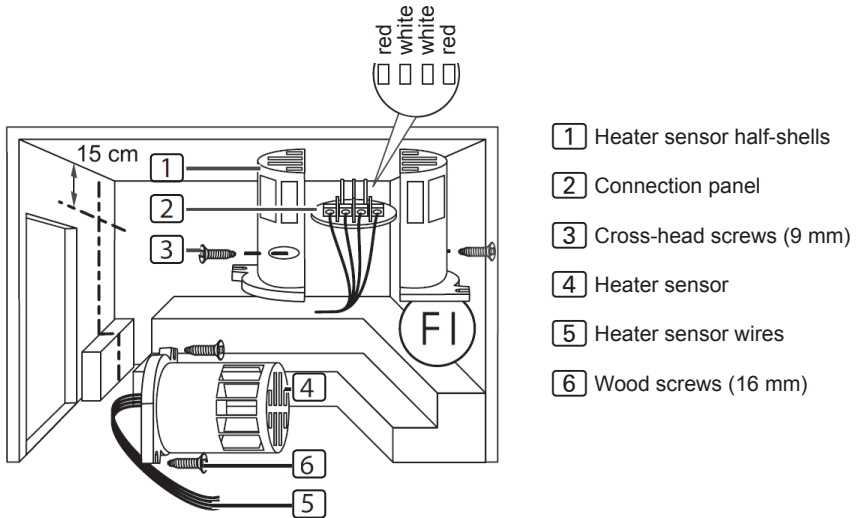

Fig. 4 Installing the heater sensor (F1)
To install the heater sensor, perform the following steps (see **Fig. 4**):
3. Connect the four connectors for the heater sensor wire **5** in accordance with the **Fig. 4**.
4. Place the connection panel **2** crossways (as shown in **Fig. 4**) in the heater sensor half-shells.